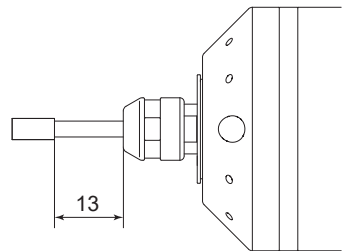

Fig. 13
- ① The proper surface speed for general grindstones is 10 - 30m / s.
- ② Do not exceed 13mm of overhang for mounted grindstones as shown in Fig. 13. If the overhang must exceed 13mm, reduce the Air Turbine Spindle speed in accordance with Table 4.
- ③ Dress the grindstone prior to use.
- ④ Do not use cutting tools with bent or broken shanks, cracks or excessive run-out.
- ⑤ For grinding, the maximum depth of cut should not exceed 0.01mm radially or axially. Reciprocate the tool several times after each pass to eliminate tool pressure.
- ⑥ Always operate cutting tools within the allowable recommended speed of the cutting tools. Use of a cutting tool outside of the allowable speed of the cutting tools could cause damage to the spindle and injury to the operator.
- ⑦ Keep the cutting tool shank and collet clean. If contaminants are left in the collet or collet nut, excessive run-out will cause damage to the cutting tool and or spindle.
- ⑧ Do not strike or disassemble the Air Turbine Spindle.
- ⑨ Please minimize the tool overhang amount to maintaining high accuracy. 13mm is the maximum amount of overhang to maintain high accuracy and safety.